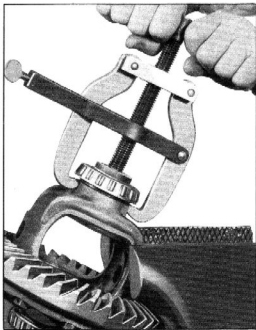

Fig. 7—Removing Differential Bearings
1. The legs of differential bearing puller, TR-278-R, should be fitted into the two notches in the case and the clamp screw tightened. Turning the puller screw will remove the bearing without damage to either the bearings or the case, Fig. 7.